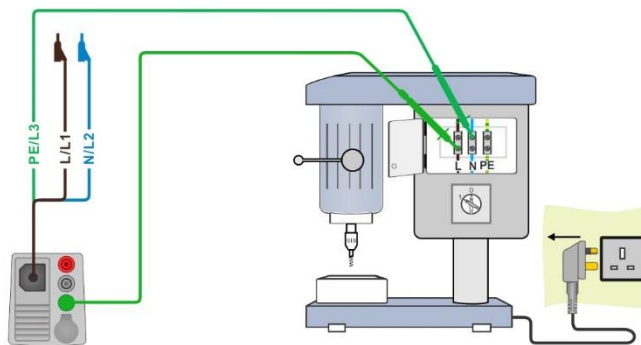

Figure 7.132: Discharging time measurement
- ▶ Connect 3-wire test lead to the instrument and on the DUT, see **Figure 7.132**.
- ▶ Connect DUT to the mains supply and Switch it ON, see **Figure 7.132**.